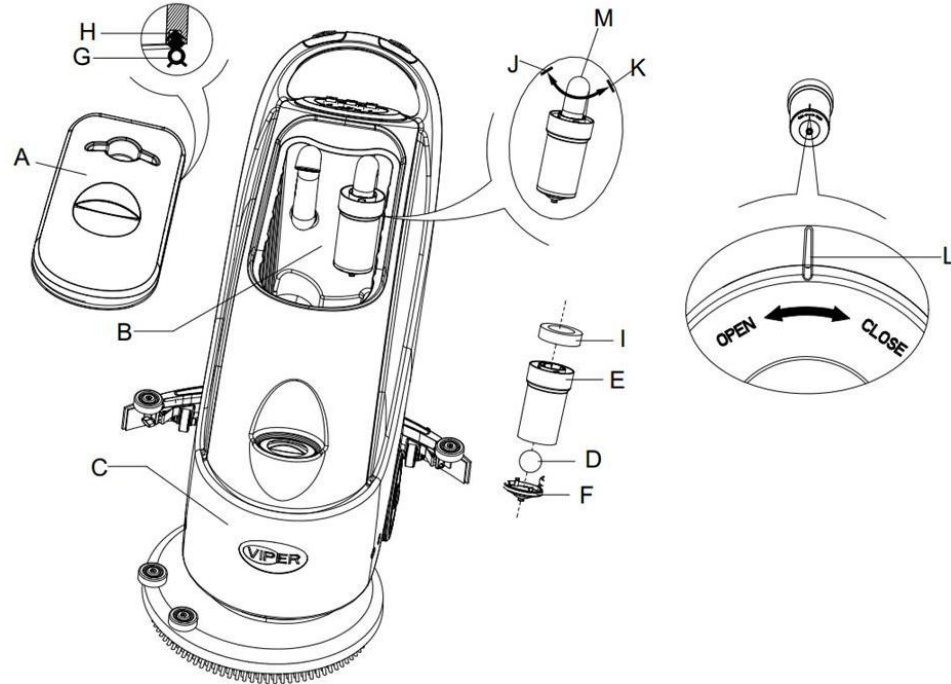

Figure 16
2. Press the power switch (41) to the position "O" to turn off the machine.
3. Open recovery tank lid (A, Figure 16), and take off the float device (36) from recovery tank.
4. Use pure water to clean recovery tank lid (A), the tank (B and C), and the float filter support frame (E). Through the Recovery tube (15), drain all the water from the water tank.
5. If necessary, following the symbols "Open" and "Close" as shown in Figure 16, open the bottom lid (F) of the float filter and clean the float (D), float filter support frame (E), and the filter sponge (I). After cleaning, fix the float onto the float filter support frame (E), and then align the mark groove (L) of the bottom lid (F) of the float filter with the mark groove (L) of the float filter support frame (E). Turn the bottom lid (F) of the float filter tight, and fix the filter sponge (I) onto the float filter support frame (E), and then onto the Vacuum tube (M).
6. Check the soundness of the sealing ring (G) of the water tank lid.
If necessary, the sealing strip of the water tank (G) may be taken out from the groove (H) and changed. When assembling a new water tank sealing strip, as shown in Figure 16 below, install the connector to the middle section of the rear part.
7. Check if the receiving surface of the sealing strip (G) is intact and seals adequately.
8. Close recovery tank lid (A).